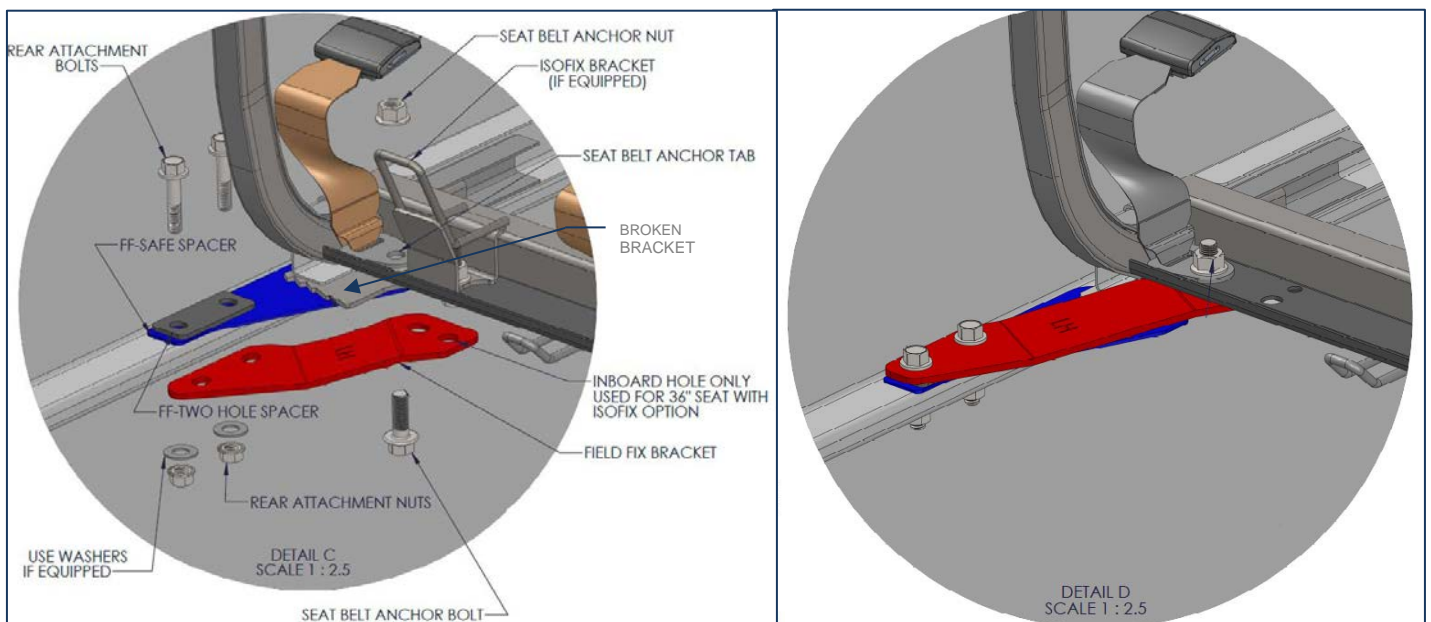

Figure 7: Installation of Safe Spacer – 30 Inch and 32 Inch Seats
3. Lay the two-hole spacer on top of the safe spacer bracket, lining up the holes. See **Figure 7**.